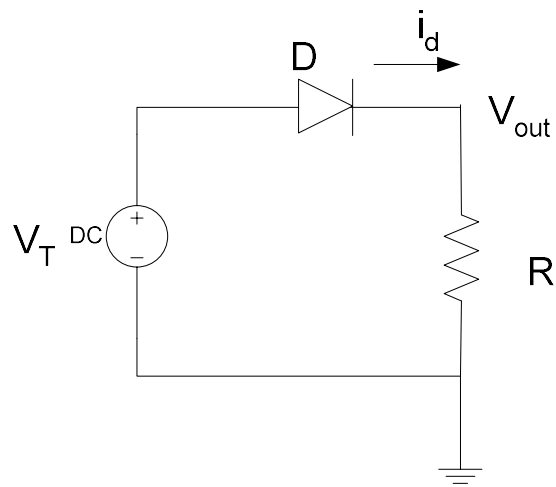

Fig. 3.5
1. Record the usually assumed  $V_d$  for a diode, then calculate  $V_{out}$ , and  $i_d$ , the current passing through the diode, in the circuit shown in Fig. 3.5.